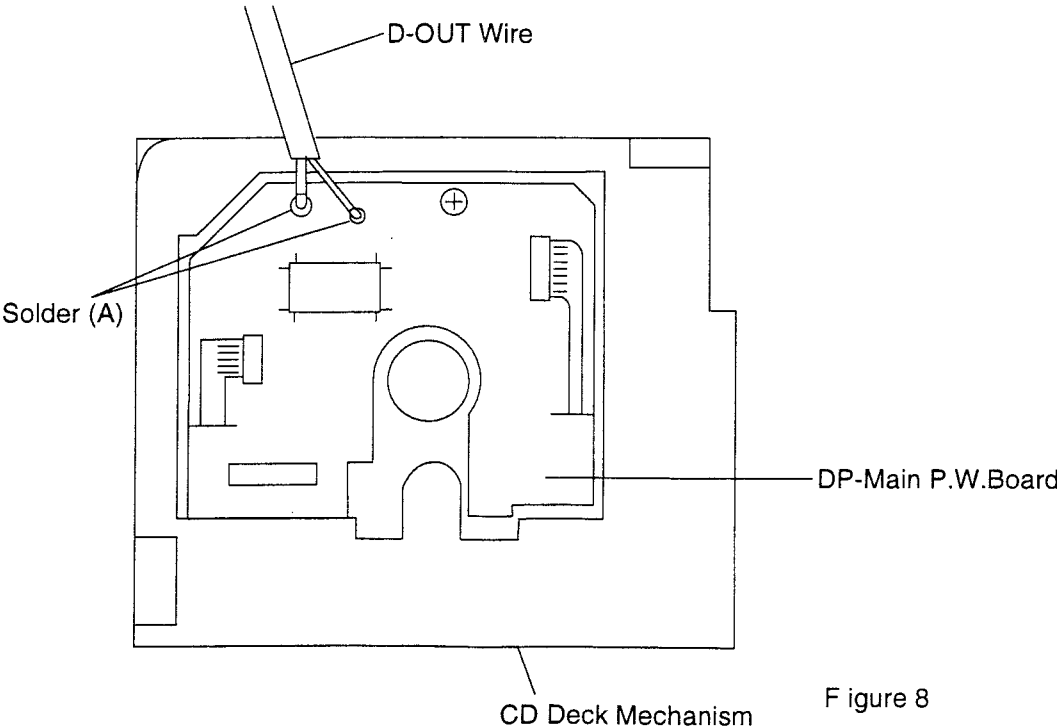

Figure 8
(3) Remove two points of Solder (A) as shown in Figure 8, and remove D-OUT Wire.